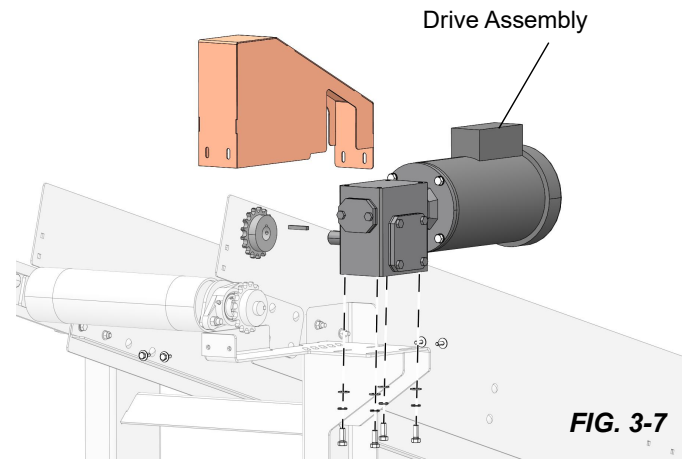

FIG. 3-7
8. Install the drive cover to the framework as shown in FIG. 3-7.